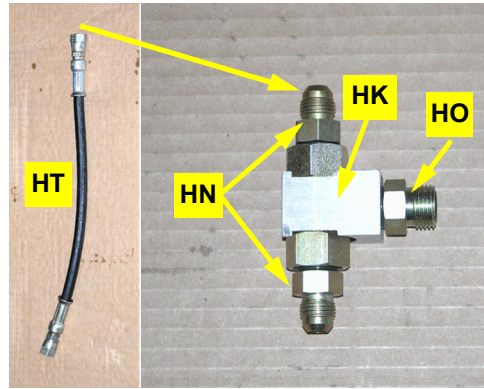

Figure 8-2a: Prepared load sense shuttle
a. Prepare the load sense shuttle **HK** with the fittings **HN** and **HO** (Figure 8-2a).